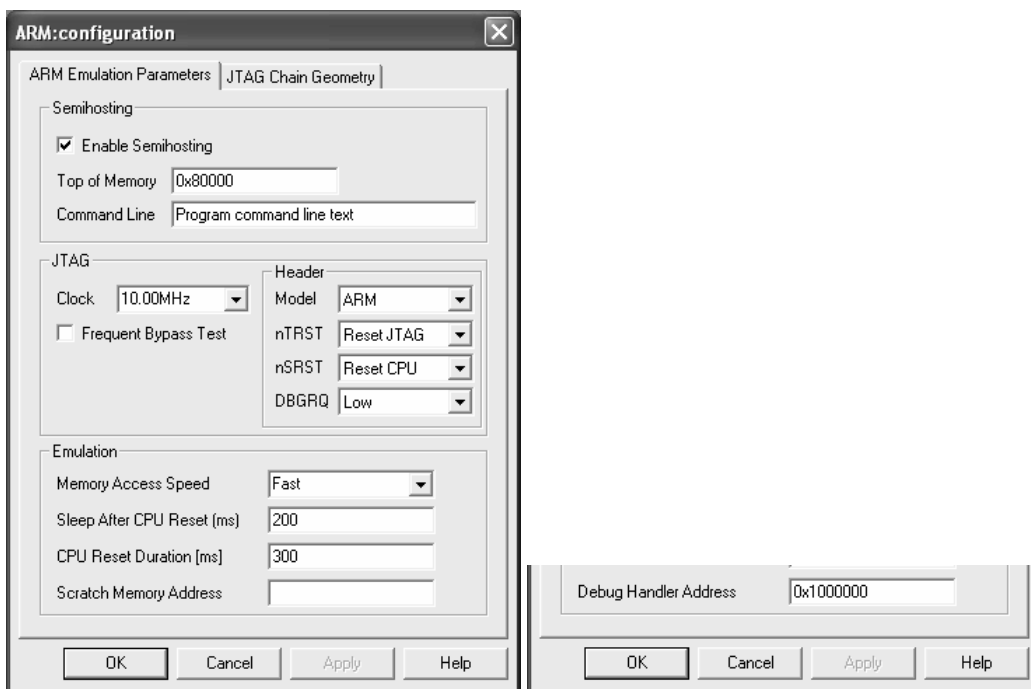

FIGURE 10 The ARM Emulation Parameters tab for ARM targets (left) and XScale targets (right).
10. Now click on the right tab to select the ARM Emulation Parameters. This tab allows you to decide if Semihosting (Virtual I/O) will be used and to set the JTAG clock speed, JTAG pin configuration as well as Reset timing. Note the slightly differences between the tab for ARM and XScale target boards (Figure 10).